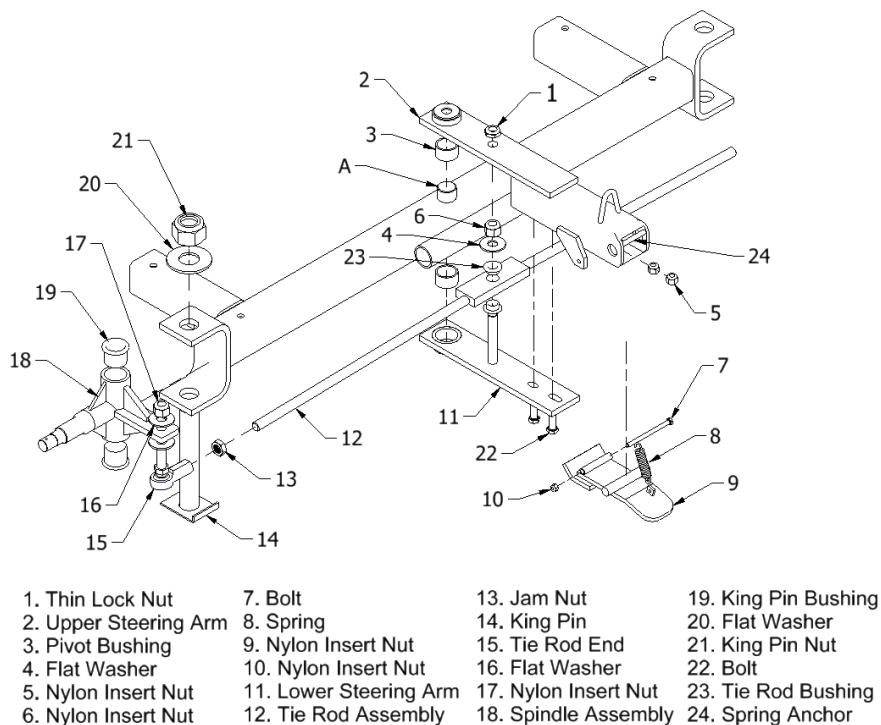

Figure 4-7 Exploded View of Undercarriage
The remaining steps are illustrated in Figure 4-7.
To remove the spindle assembly, follow the maintenance steps for the front hub assembly before beginning the next steps. See Figure 4-7.
- Lift upper steering arm subassembly vertically to clear pivot pin (reference arrow (A)), then pull to clear tank and front axle tube.
- Remove tie rod assembly (12) by removing nut (6) and flat washer (4). Note the presence of the bushings (23).
Refer to Figure 4-7 for the removal of the tie rod. Before beginning this process make sure that you have followed the steps for the steering arm assembly. **Note presence and location of bushings (23) when removing tie rod assembly from steering arm assembly.**